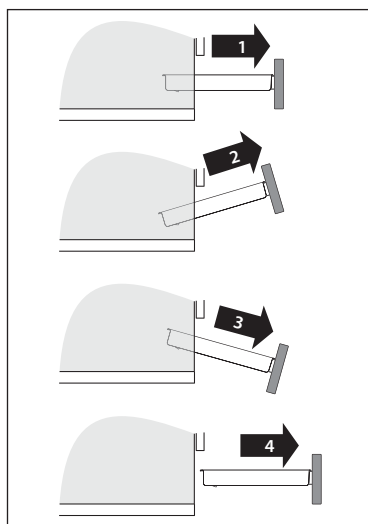

Figure 7b Removing the drawer
- Remove the drawer (Fig. 7b).